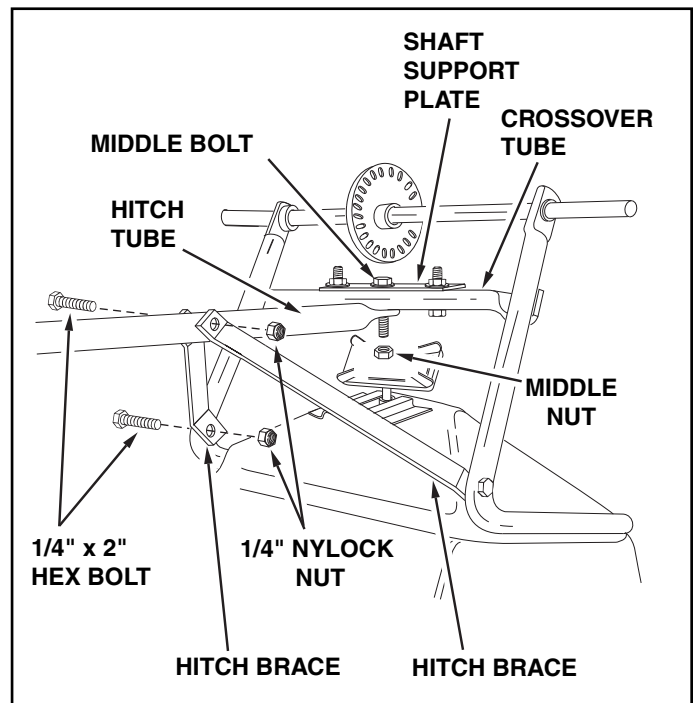

FIGURE 2
2. Assemble the two hitch braces to the inside of the hopper frame on each side using two 1/4" x 2" hex bolts and two 1/4" nylock nuts. **DO NOT TIGHTEN YET.** See figure 2.
3. Remove the lock nut from the middle bolt in the crossover tube and shaft support plate. Leave the bolt in place. See figure 2.
4. Assemble the short end of the hitch tube onto the middle bolt and secure it with the same nut you removed. **DO NOT TIGHTEN YET.** See figure 2.
5. Assemble the two hitch braces to the hitch tube using a 1/4" x 2" hex bolt and a 1/4" nylock nut. **DO NOT TIGHTEN YET.** See figure 2.